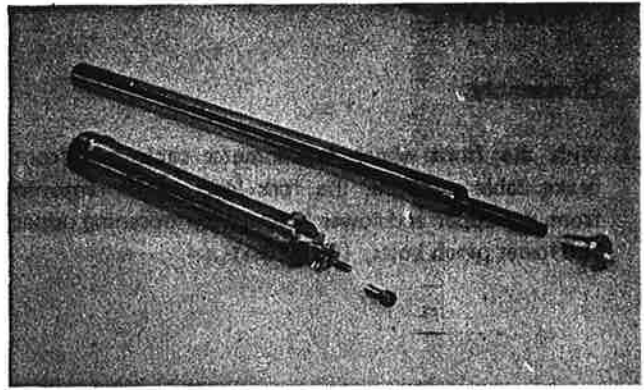

Fig. 5-6-4
4. Remove inner tube and damper assembly from outer tube. (Fig. 5-6-4)